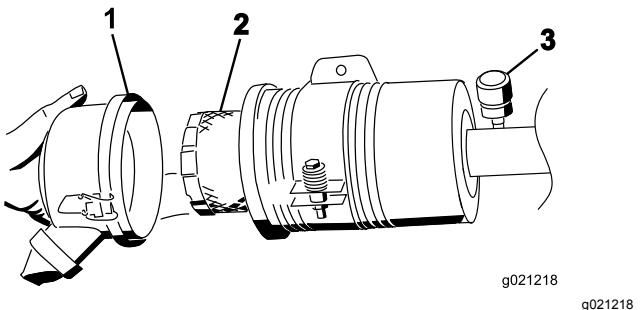

Figure 70
3. Remove and replace the filter (Figure 70). Cleaning of the used element is not recommended due to the possibility of damage to the filter media. Inspect the new filter for shipping damage, checking the sealing end of the filter and the body. **Do not use a damaged element.** Insert the new filter by applying pressure to the outer rim of the element to seat it in the canister. **Do not apply pressure to the flexible center of the filter.**